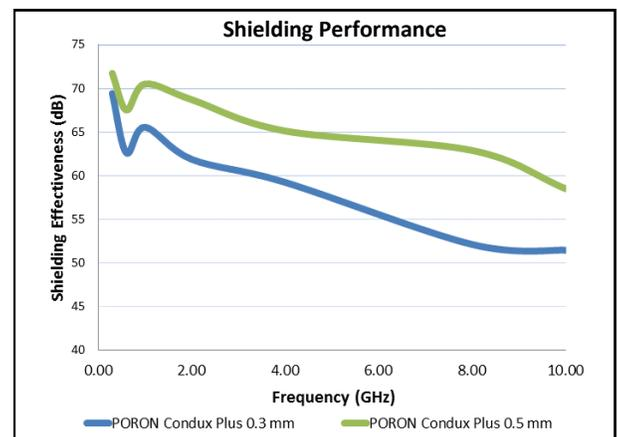

Figure 3: Condux Plus 0.3 mm & 0.5 mm Shielding Effectiveness Graph
1. Figure 3 in the bottom right-hand side of the page illustrates the shielding performance of Condux Plus 0.3 mm and 0.5 mm material ranging from 300 MHz to 10 GHz according to a modified version of ASTM-D-4935.